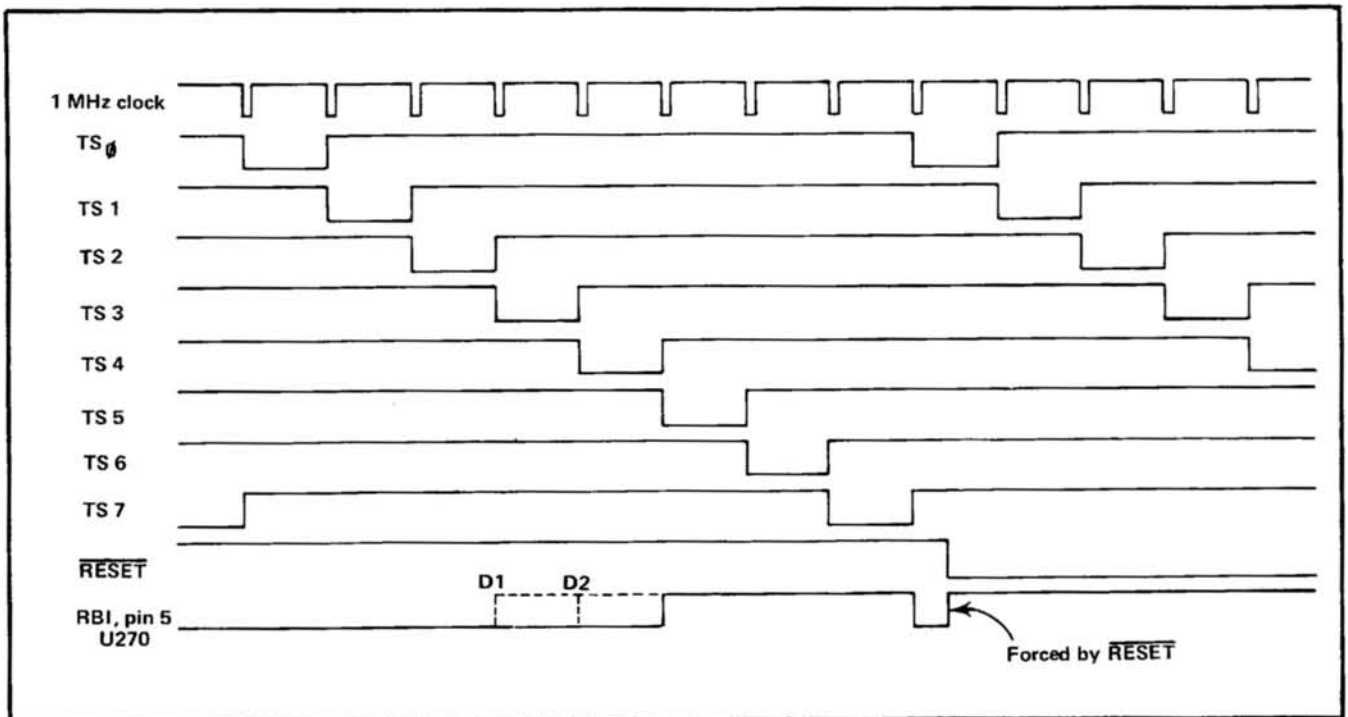

Fig. 2-3. Multiplexing circuit ladder diagram showing timing with an all-zero display.
**÷ 8 Counter and Time-Slot Decoder.** The divide-by eight counter is made up of U262B, U263A, and U262A, which are three halves of SN7474 type D flip-flops. The output of this counter drives U265, and SN74145 BCD-to-decimal decoder. U265 provides eight output lines (designated  $TS_0$  through  $TS_7$  in the schematics and in Fig. 2-3) to simultaneously enable the output of each counter latch and its corresponding display LED sequentially. For example, when the  $TS_1$  line goes LO, Q280 is turned on to supply anode voltage to CR280 at the same time inverter U267C applies a HI to pin 6 of latch U256, enabling its output. Operation in a time sequence allows the latches to share a common set of output lines.